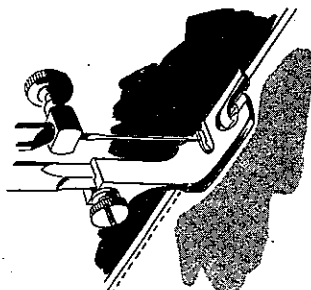

Fig. 27
7. Place a piece of fabric on top of another piece so that their "right" sides face each other. Right edge of bottom piece should protrude about one-eighth of an inch beyond right edge of top piece (Fig. 27).
8. Using straight stitch narrow hemmer as presser foot, stitch both pieces of fabric together on a line parallel to right edge of top piece of fabrics. Use edges of protruding toe of hemmer to guide edges of top and bottom pieces of fabrics (Fig. 27).